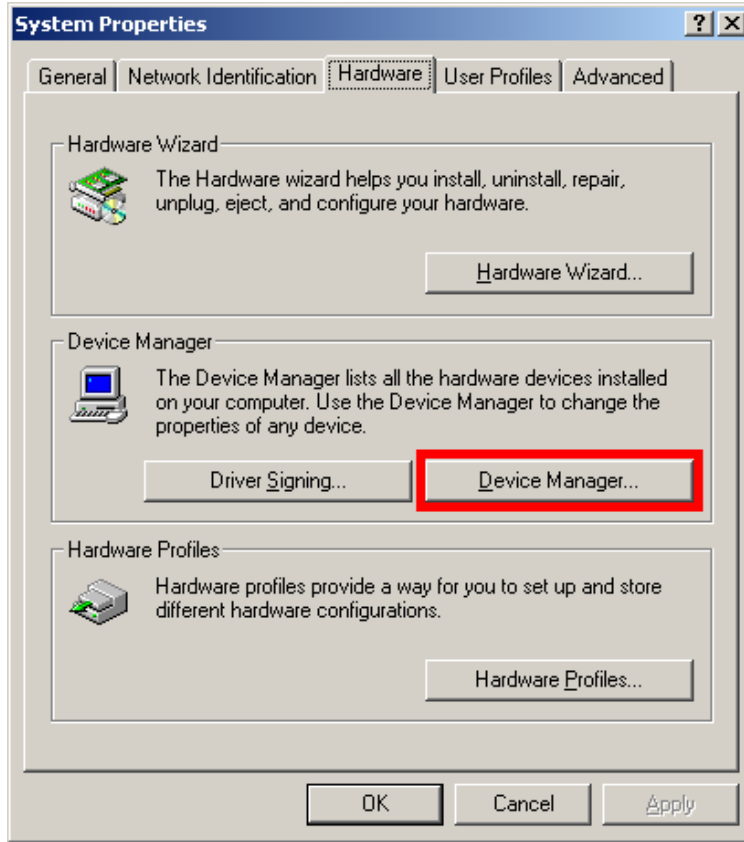

Figure 7-21: Device Manager Tab
Step 3: Click the **Device Manager** tab (Figure 7-21).